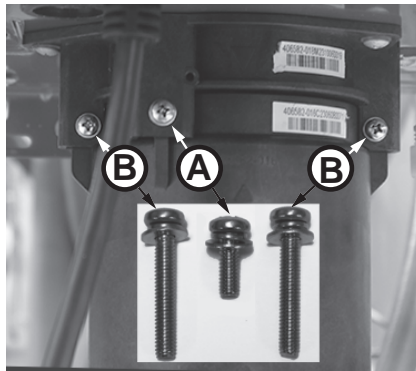

Figure 127 - Identify cartridge screws
- 6 Locate the three (3) screws securing the X3®/Bypass cartridge as shown in Figure 127. Remove the **(A)** M4-12mm screw and the two **(B)** M4-25mm screws from cartridge. Place screws aside in a safe place for reinstallation.